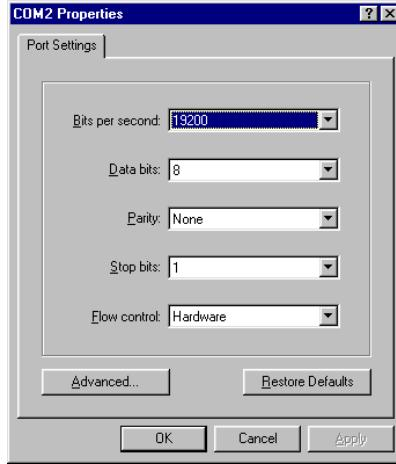

Figure 3 – COM Properties Dialogue Box
- d. In the **COM Properties** dialogue box, set the following: *Bits per second: 19200; Data bits: 8; Parity: None; Stop Bits: 1* and *Flow Control: Hardware* (See figure 3). Click *OK*. (Set the *Bits per second* to 9600 if you are using 9XStream-96 modules)